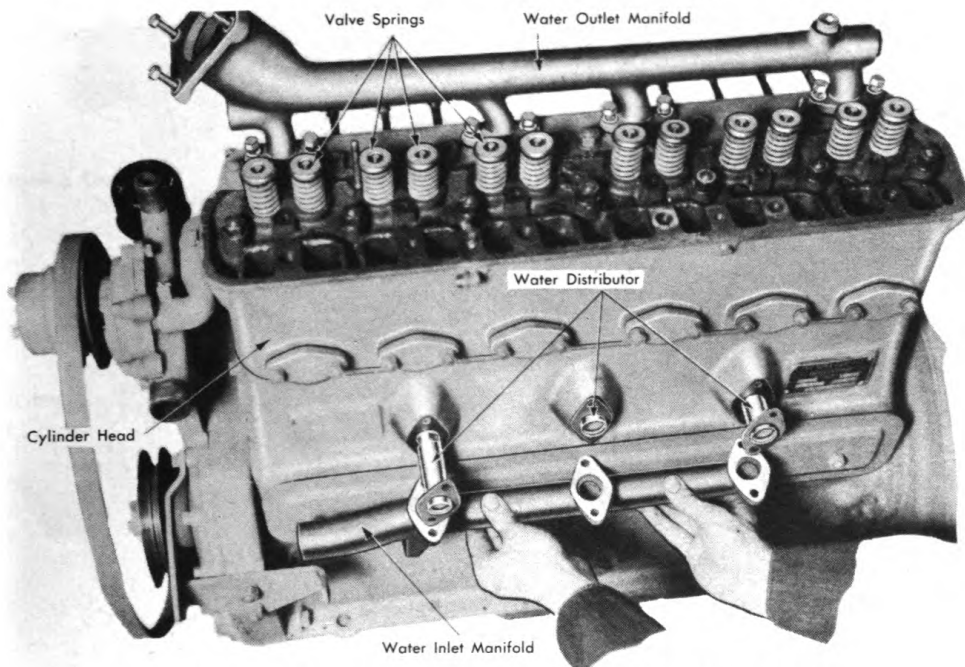

Figure 115. Removing Water Inlet Manifold.
11. Remove the hose connections to the pump and remove the water inlet and outlet manifolds. Note the water distributors at the inlet manifold in the crankcase. See Figure 115.